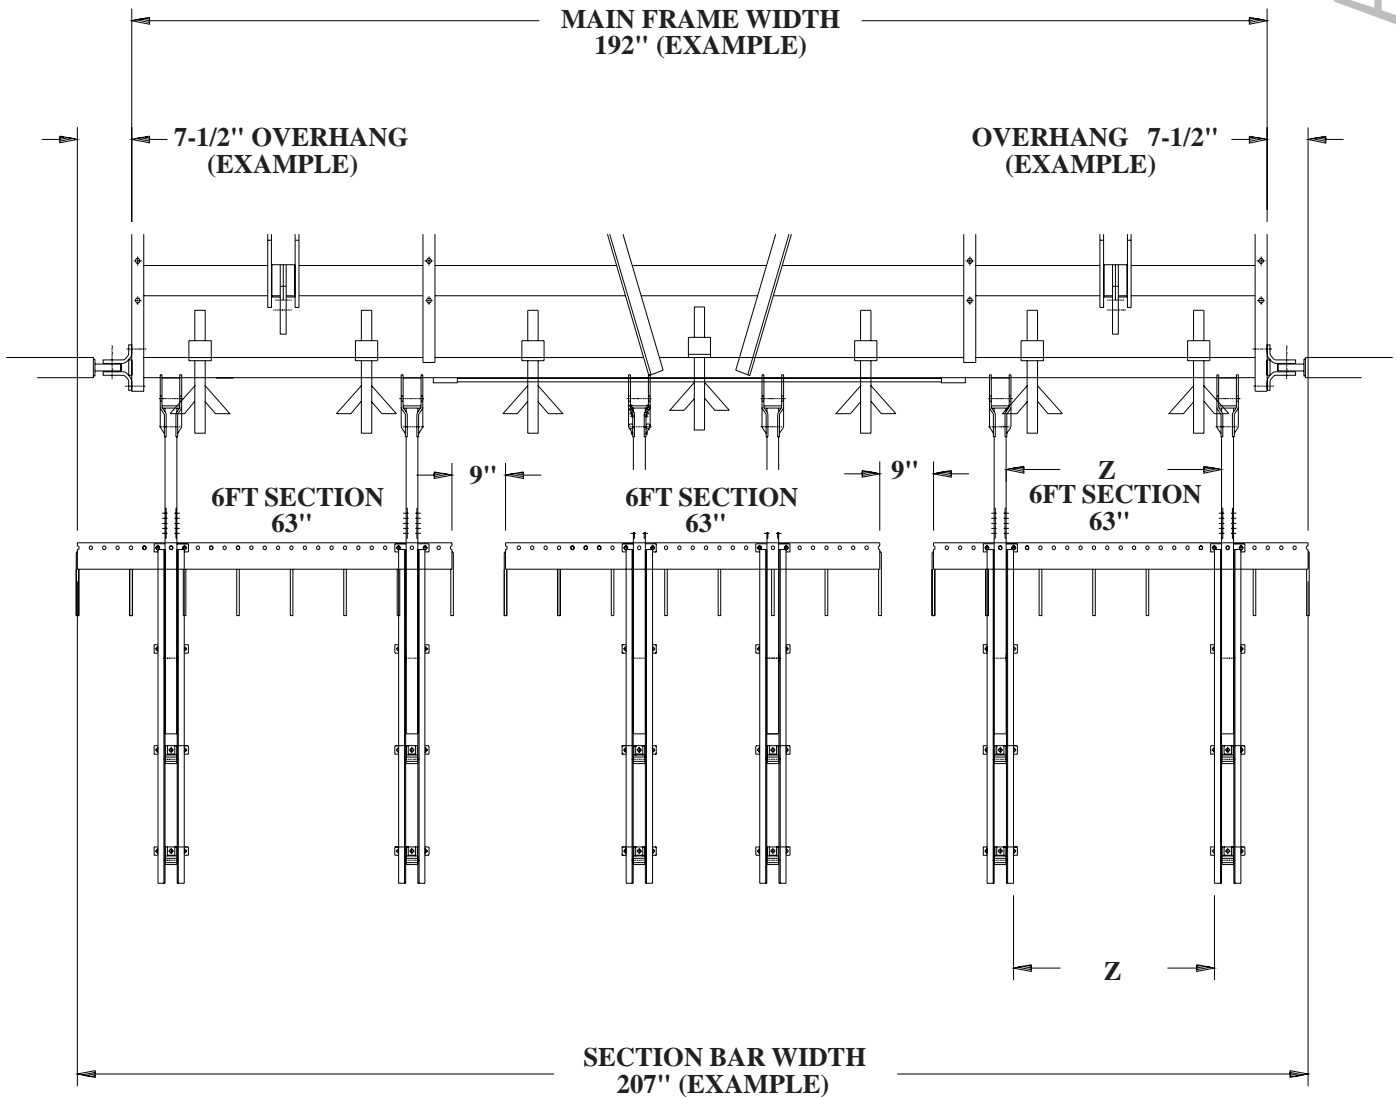

Fig. 2
**Determine the section bar overhang. See the SAMPLE on fig 2.**
See fig 2.
Once the No. 1 section bars are in position, measure the distance (Z) between the mounting arms as shown in Fig. 2. front and back to ensure that the arms are parallel. If they are not, move the arms on the rear bar of the cultivator to position them correctly while maintaining the section location relative to the unit centerline.